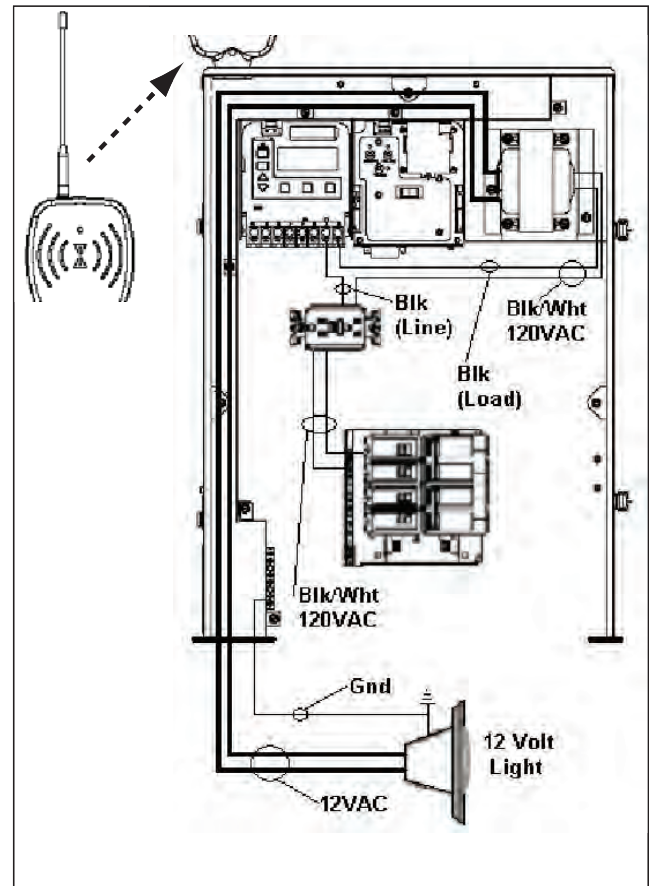

Figure 3-10
1. If required by local code, install a GFCI receptacle and connect the neutral and hot wire, from the circuit breaker, to the LINE side of the GFCI. (See Figure 3-10.)
- b. Then out the LINE side of the clock to the LOAD side of the GFCI. (See Figure 3-10.)